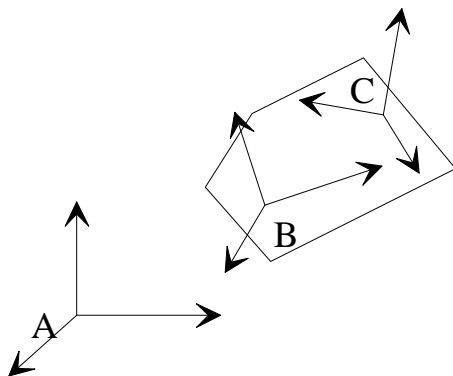

Fig. 1b
- (b) Frames B and C (in Fig. 1b) are attached to the same moving rigid body with ${}^B T_C$ as known. At a certain instant of time when ${}^A T_B$ is at the given configuration, Frame B has translational and angular velocities of $(1, 2, 3)^T$ m/s and $(4, 5, 6)^T$ rad/s, respectively, with respect to Frame A.